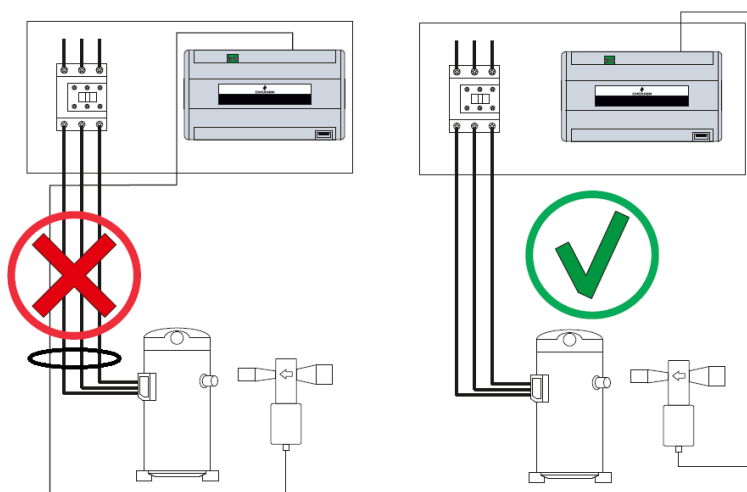

Figure 13: Example of wrong connection
- Separate the signal cables from the power cables. It is recommended to follow the diagram in **Figure 13** below as far as possible.